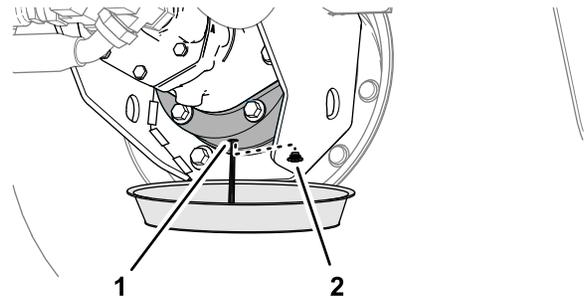

Figure 97
6. Place a drain pan under the brake housing, remove the drain plug, and allow the lubricant to drain completely (Figure 97).